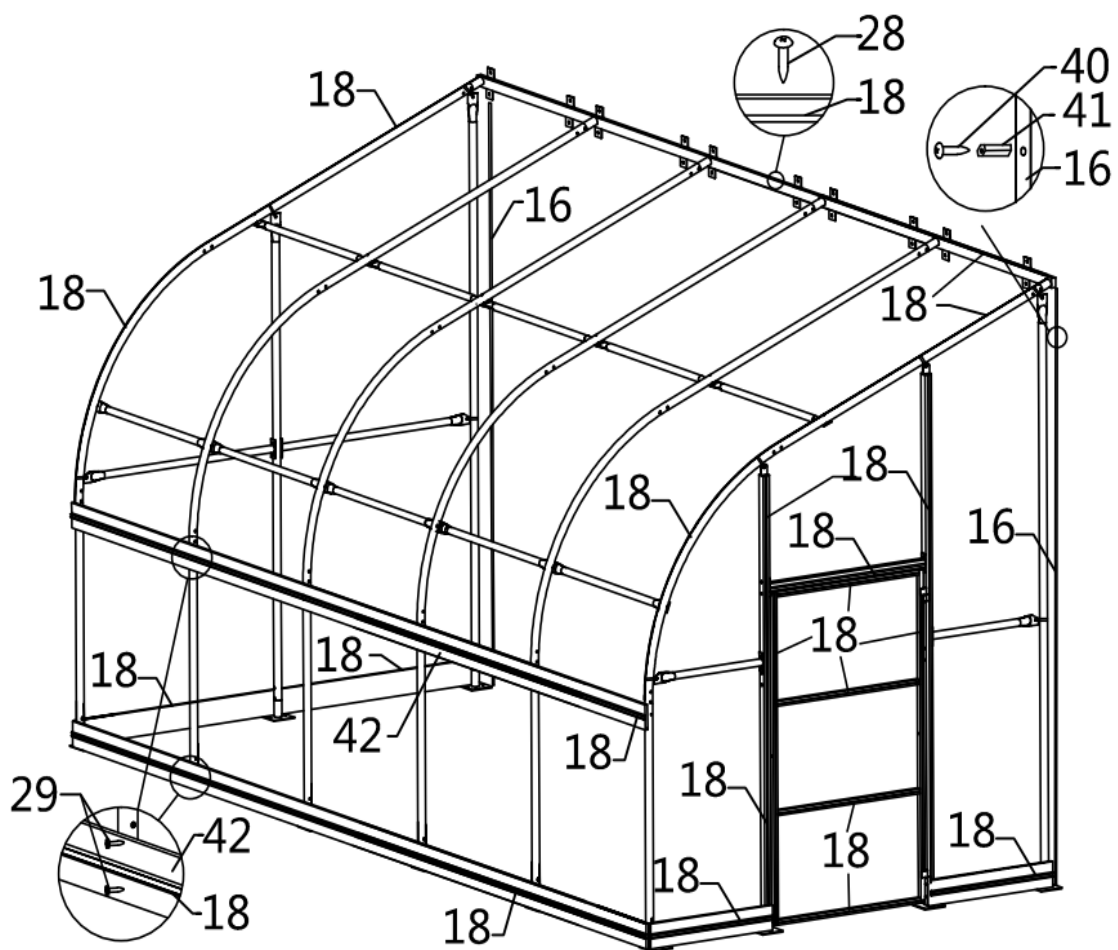

Figure 8
Step 7 : Install board, clamping groove and then cover tarpaulin (refer to figure 8).
- (4) Clamping groove with hole (#16)
- (28) Clamping groove (#18)
- (165) Self tapping screw (#28)
- (38) Self tapping screw (#29)